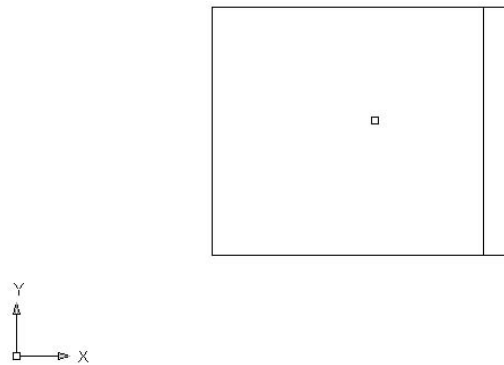

FIGURE 2.11: The first line is offset.
4. Select a point somewhere inside the box. The offset takes place, and the new line is exactly 0.5 units to the inside of the chosen line (see Figure 2.11). Notice that the pickbox comes back on. The Offset command is still running, and you can offset more lines the same distance.